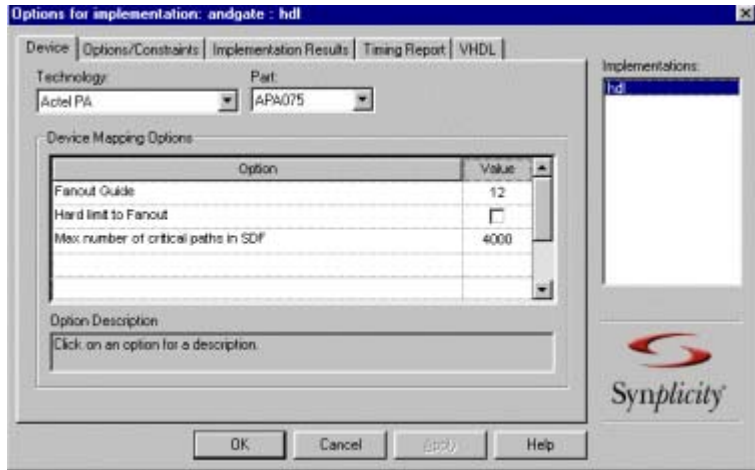

Figure 5-16. Options for Implementation Dialog Box
2. From the Project menu, select *Implementation Options*. The Options for Implementation dialog box is displayed, as shown in Figure 5-16.